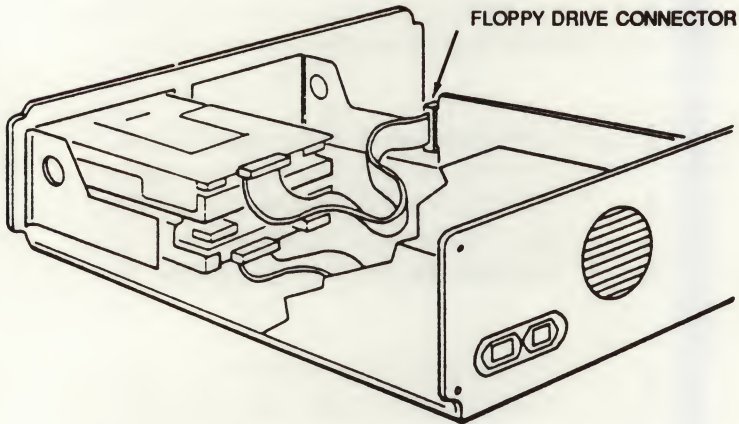

Figure 3-24. Connecting the Floppy Controller Cable to the Combination Tape/Floppy Controller Card
4. Connect the floppy controller cable (disconnected earlier) to the end of the new combination tape/floppy controller cable, as shown in Figure 3-24.